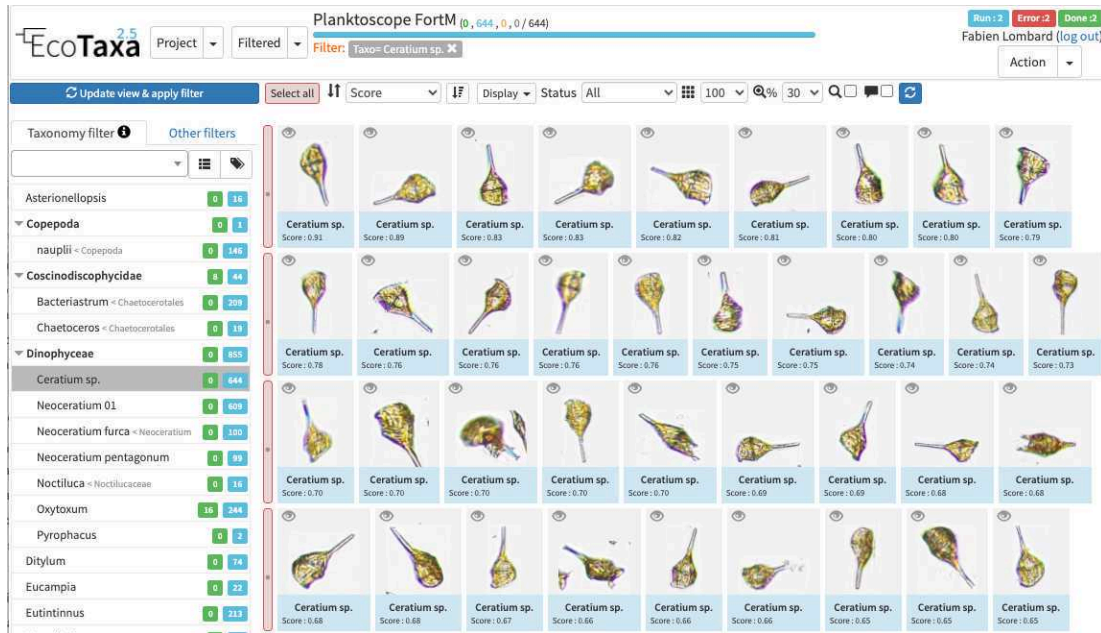

Figure 15: Example of images sorted by score of prediction.
- Click on "Start prediction task". Once done, images have the status "Predicted". Each image has a "Score" that represent the reliability of the prediction (Fig.15). It is therefore a good filter to use when you want to validate a large number of images quickly to then launch a prediction with your own project. Do not hesitate to launch a prediction as soon as you have validated most of the images with a high score.